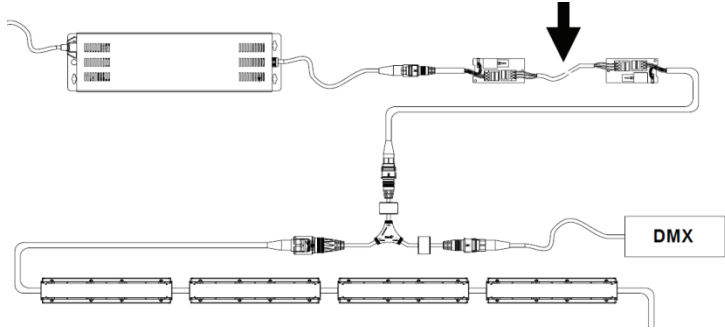

Figure 19: Extending Tripix Power and Power Inserter
1. See Figures 19 and 20. If you need to extend the distance between a Tripix Power device and Power Inserter cable, you can use Tripix Cable Adapters. Only a power cable (arrowed) is needed as no data is transferred.